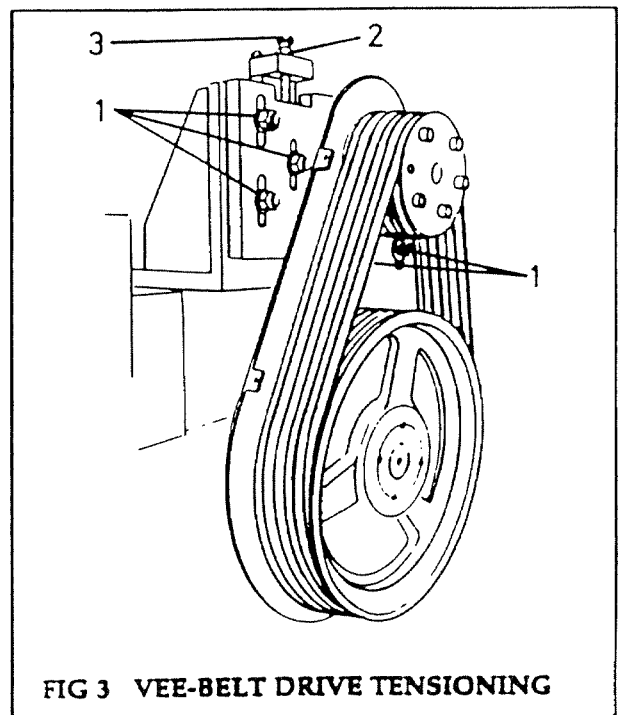

FIG 3 VEE-BELT DRIVE TENSIONING
**Hydraulic Feed Drive Belts (Fig 3)**
- a) Slacken off the five clamping bolts (1).
- b) Slacken off adjusting screw locknut (2).
### Outboard Bearing Change 1st & 2nd Bottom Heads (Fig.3)